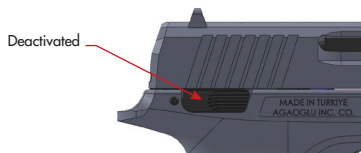

Figure 16-1
2. Lever Safety: The lever safety is located on the right and left side of the rear upper part of the body. (Figure 16-1.) Safety is closed when the safety lever is in parallel position with the cover.